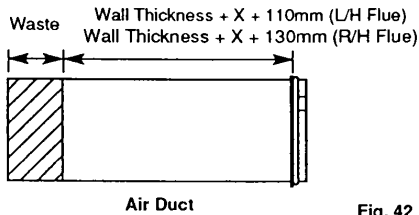

Fig. 42
6. Measure the same amount from the flange end of the **Duct** and cut the waste off the plain end (Fig. 42).